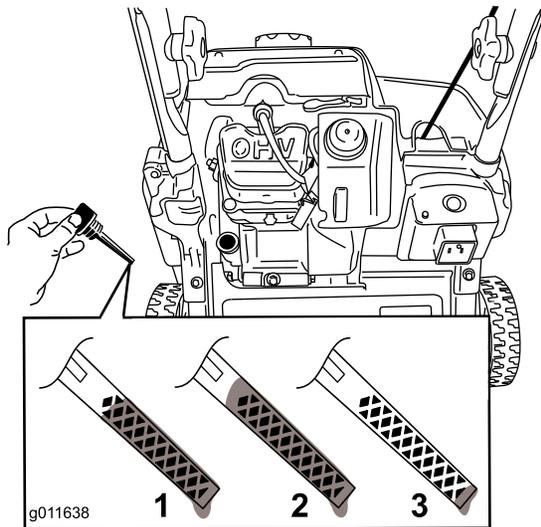

Figure 27
**Note:** To determine the proper oil level on the dipstick, refer to Figure 27.